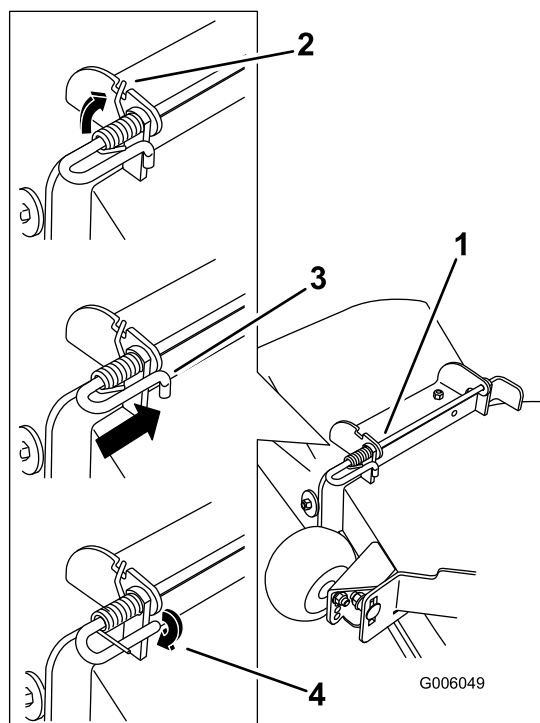

Figure 75
4. Lift the long end of the spring and place it into the notch on the deflector assembly bracket (Figure 75).
5. Secure the rod and spring assembly by twisting it so the short end of the rod can be placed behind the front bracket welded to the deck (Figure 75).